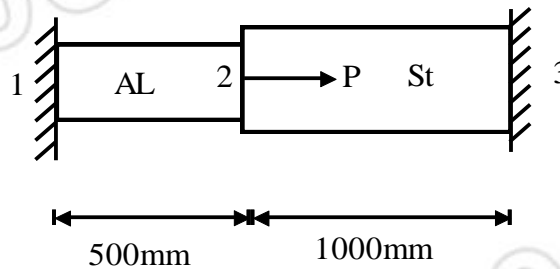

Fig. 1 (b)
- b) An axial load $P = 20$ kN is applied at the rod as shown in fig.1 b The temperature is then raised to 60°C . **10**